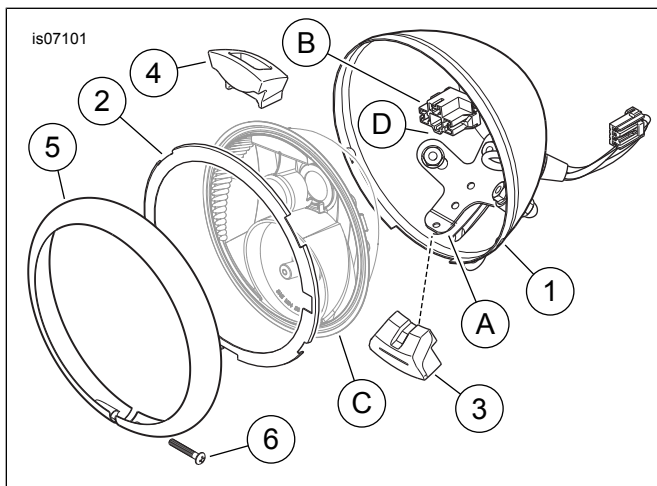

Figure 1. Service Parts, 5-3/4 Inch Headlamp Housing
See Figure 1 and Table 1.
5. See Figure 1. Install the bumpers (3 and 4) from the kit onto the leading edge (A) of the mounting bracket inside the **new** black headlamp housing (1) as shown.